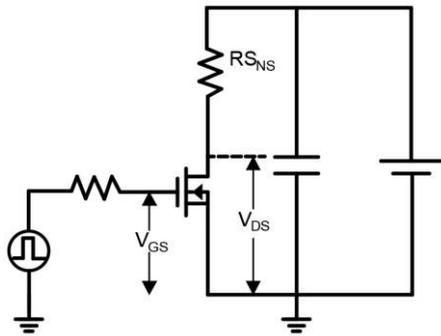

Figure 17. Dynamic R_{DS(on)} Test Circuit
c. Dynamic on-resistance; see Figure 17 and 18 for test circuit and configurations